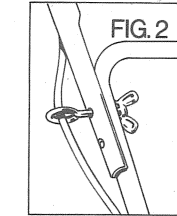

FIG. 2
2. The handle is assembled as shown in Figure 2. Tighten the two wing nuts on the bolts which hold the upper and lower handle sections together. Squeeze handle ends together slightly and lift to snap into tabs on mounting brackets.
**NOTE:** There are two holes in each side of the upper handle section (Fig. 2). To change handle height remove fasteners and replace them through the selected holes.